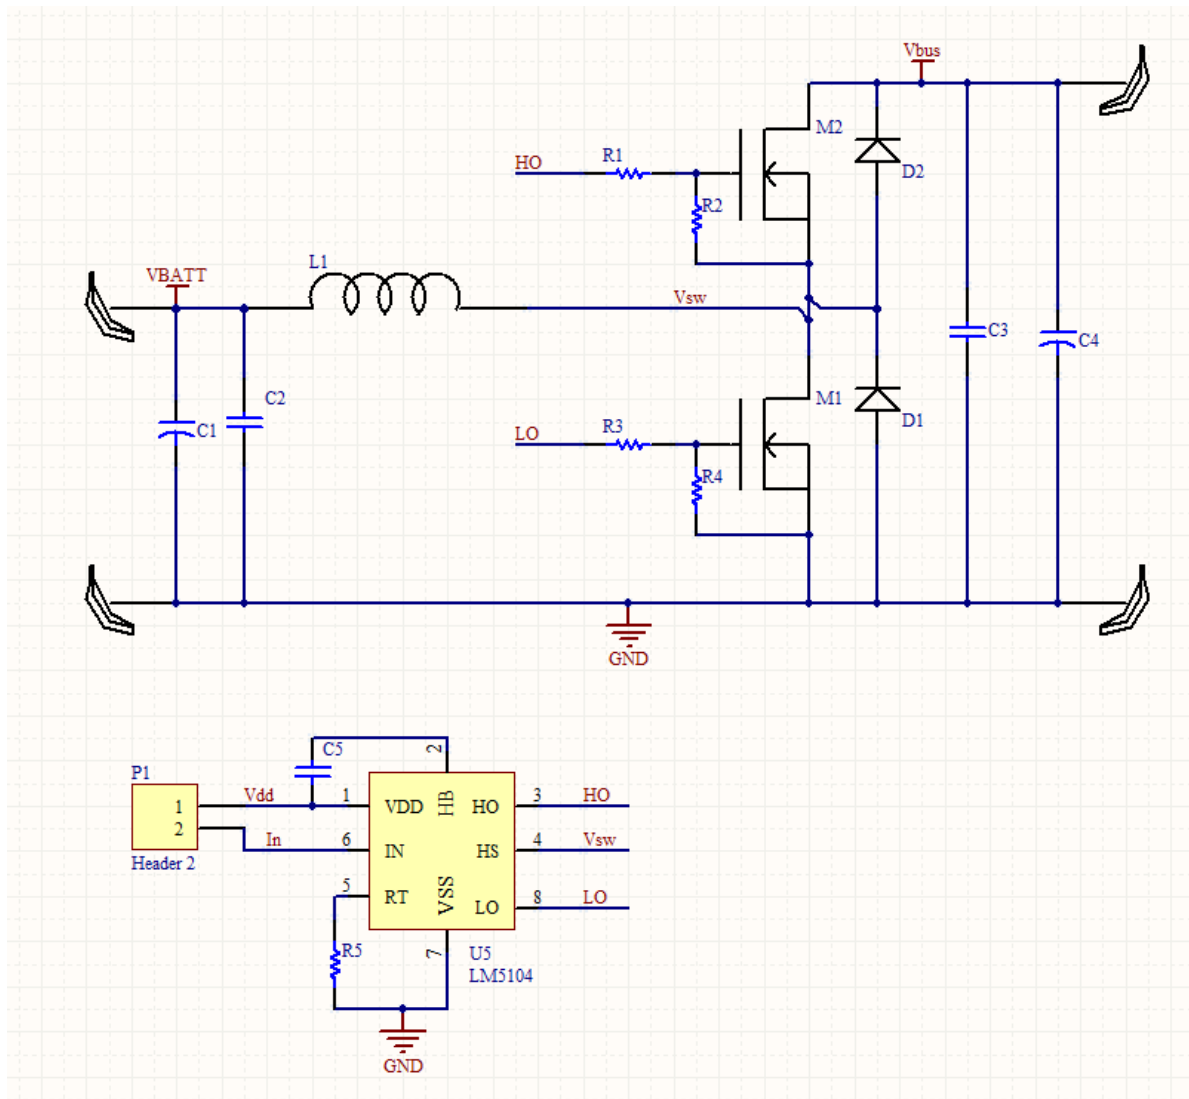
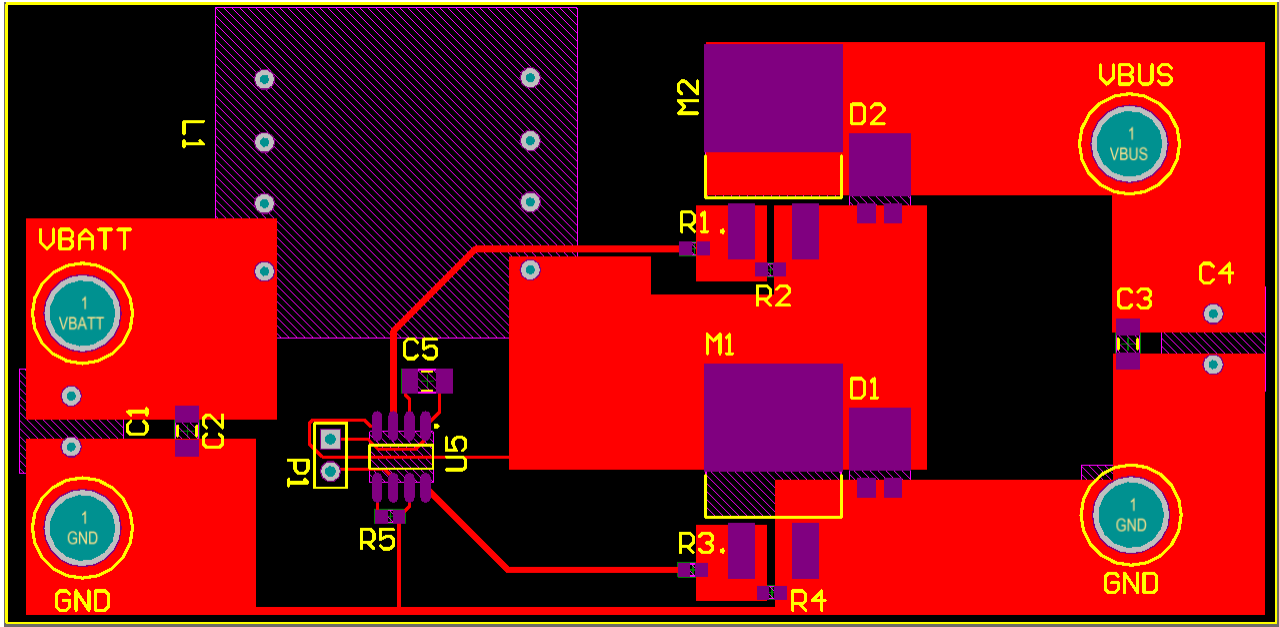
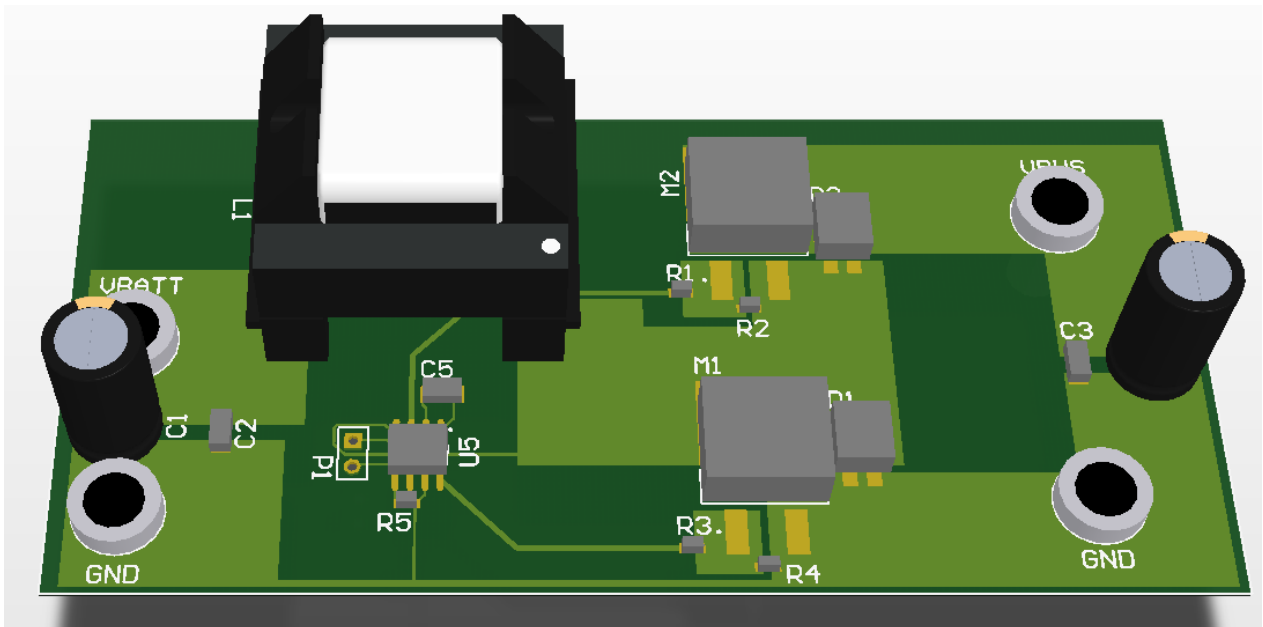

Figure 1: Boost converter schematic diagram
Figure 2: Boost converter PCB layout
Figure 3: 3D representation of boost converter layout from Fig. 2
An example boost converter schematic is given in Fig. 1, with its PCB layout implemented in Fig.2 and shown again in Fig. 3. You may assume the following:
- C. [10 pts] Describe what you think are the *two most important* errors which must be addressed in the layout of Fig. 2 in order to ensure that the boost converter is able to work correctly and effectively. Explain what error is in the current layout, how it will harm circuit operation, and what should be altered to eliminate or reduce the harm.
The diagram of Fig. 2 is reproduced below and may be used to supplement your descriptions.